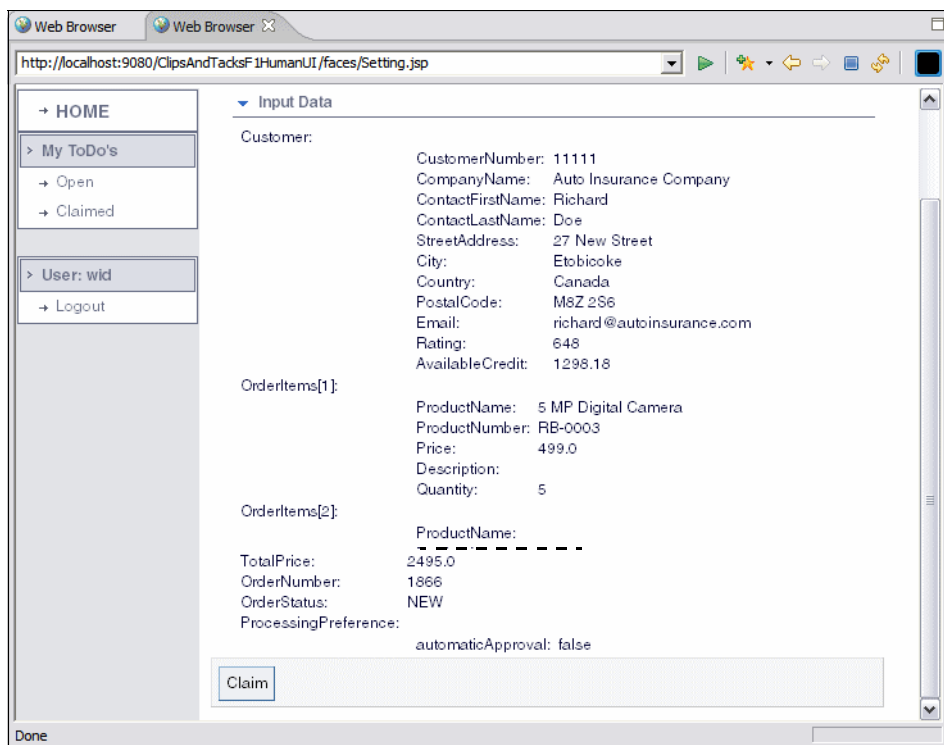

Figure 10-72 Claiming a task
- The task is displayed with its input data (Figure 10-72).